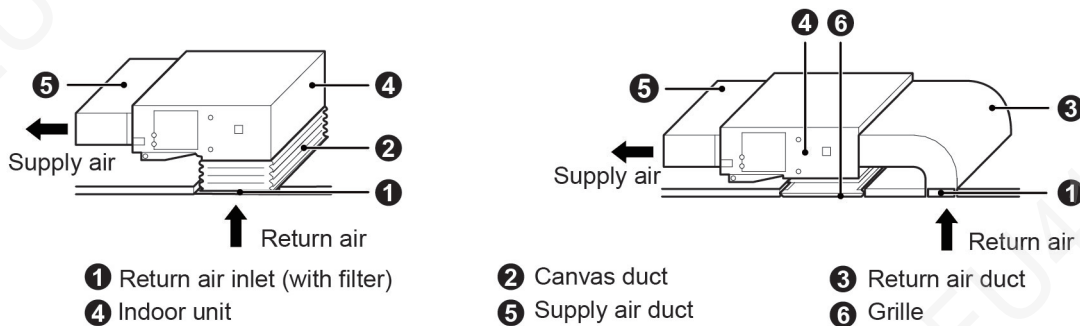

Fig 4.25
- (2) If air return from the bottom is needed, switch the positions of square flange and air-return cover.
- (3) Use a clincher to connect air-return duct to the air-return opening of indoor unit. The other end of air-return duct connects with the air-return louver. In order to adjust the height conveniently, you can make a folded canvas duct and have it strengthened by 8# iron wire.
- (4) Air return from the bottom will produce more noise than air return from the back. So we suggest you to add a noise damper and static pressure case to lower noise if you choose air return from the bottom.
- (5) Select the appropriate installation way based on actual construction and maintenance needs, as shown in Fig 4.25